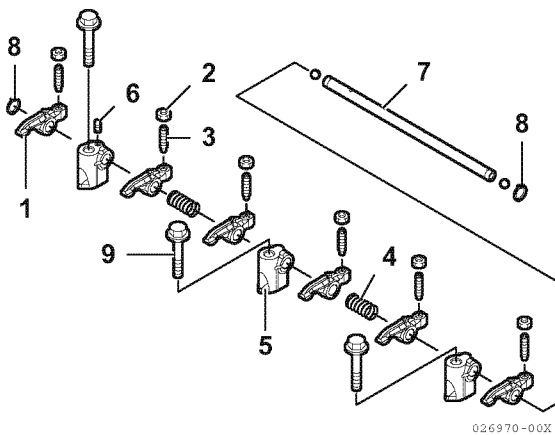

Figure 6-32
1. Lubricate the rocker arm shaft. Slide the rocker arm supports (**Figure 6-32, (5)**), springs (**Figure 6-32, (4)**) and rocker arms (**Figure 6-32, (1)**) onto the shaft.
2. Align the hole in the rocker arm shaft (**Figure 6-32, (7)**) and the hole in the rocker arm support. Install the alignment setscrew (**Figure 6-32, (6)**).
4. If removed, install the valve adjusting screws (**Figure 6-32, (3)**) and lock nuts (**Figure 6-32, (2)**).